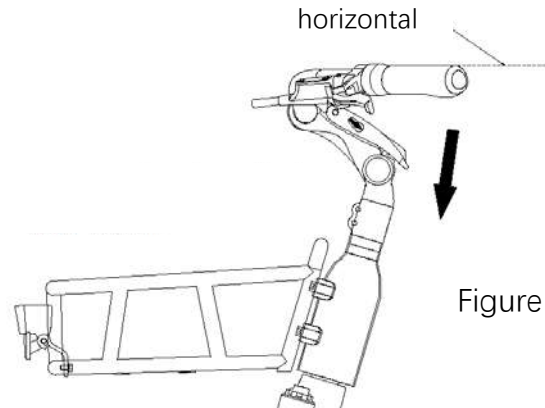

Figure 12.
4. Stand in front of the bike and make sure the handlebars are perpendicular to the two wheels and parallel with the ground, then close the clamp, as shown in Figure 12.